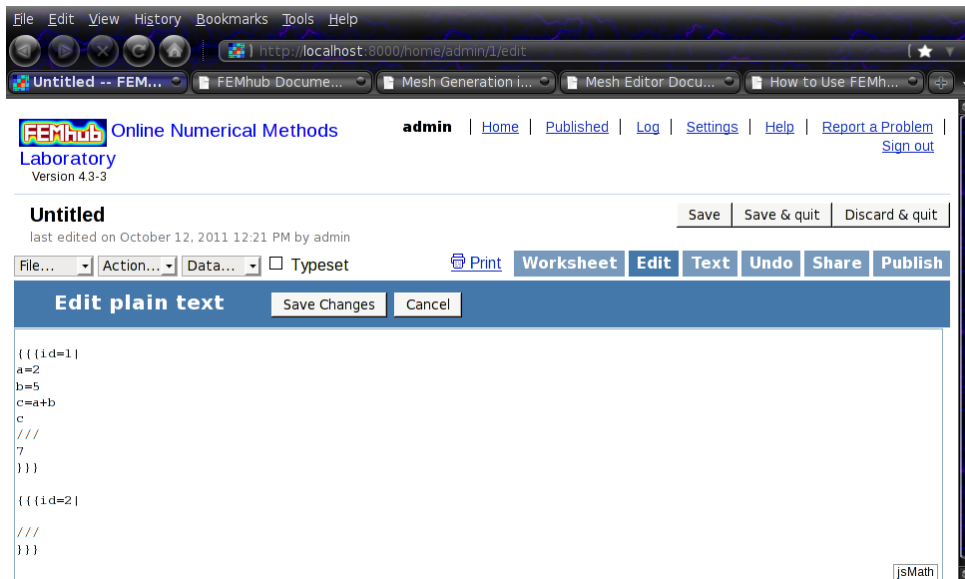

Figure 8: Editable text mode of the worksheet.
**Edit:** editable text mode of the worksheet (Fig. 8);